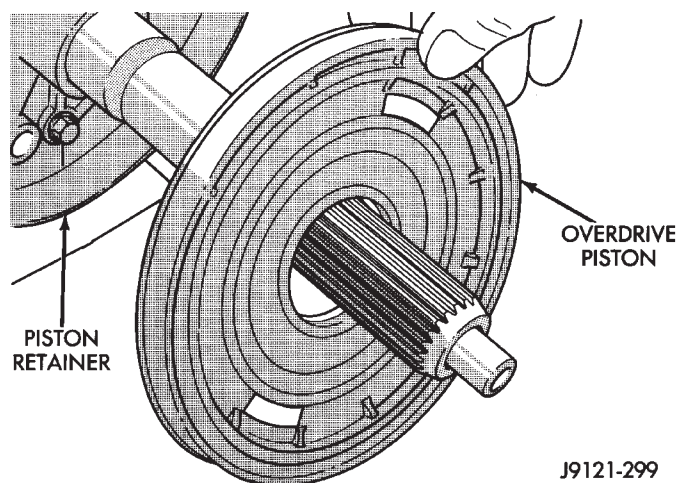

Fig. 195 Overdrive Piston Removal
(3) Remove overdrive piston from retainer (Fig. 195).